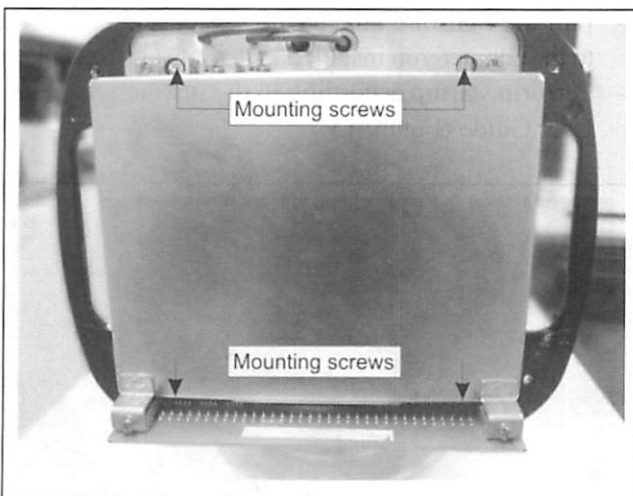

Fig. 7.
- Remove the 4 mounting screws and lift the electronics off (Figure 7).